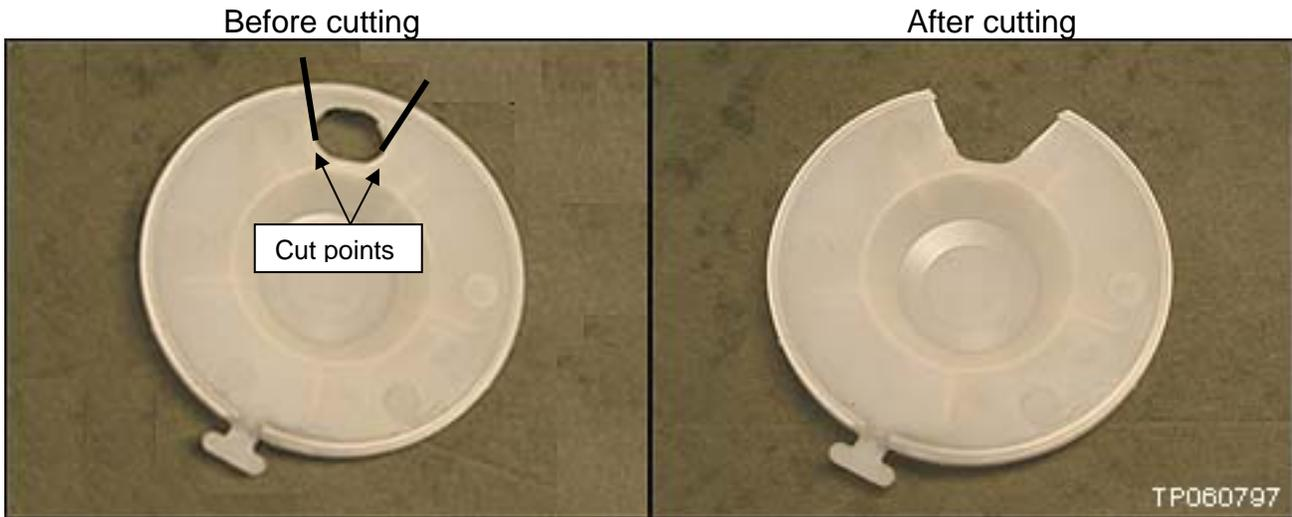

Figure 9
6. Cut / modify a new plastic hub cap as shown in Figure 9.